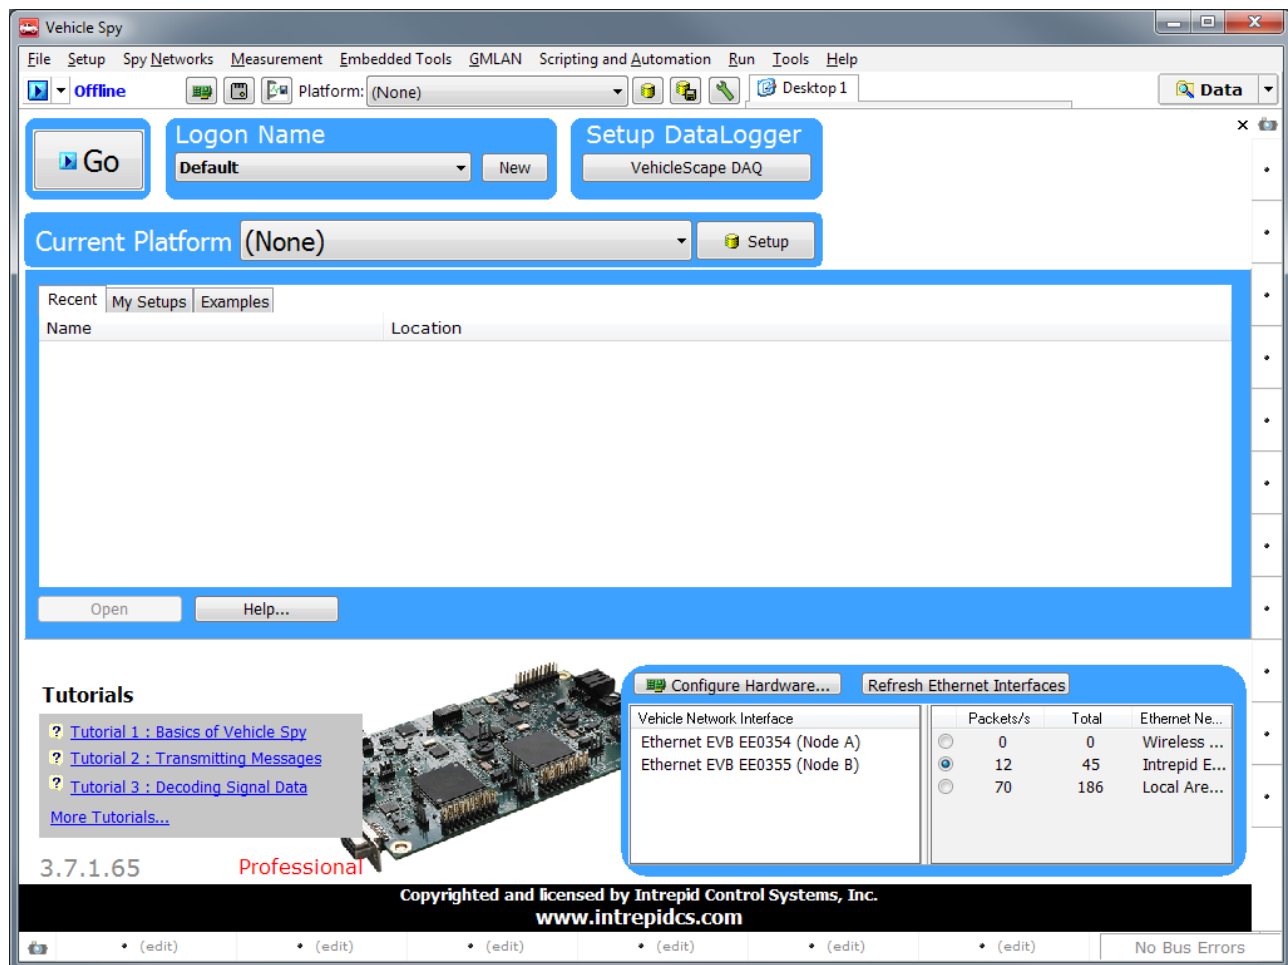
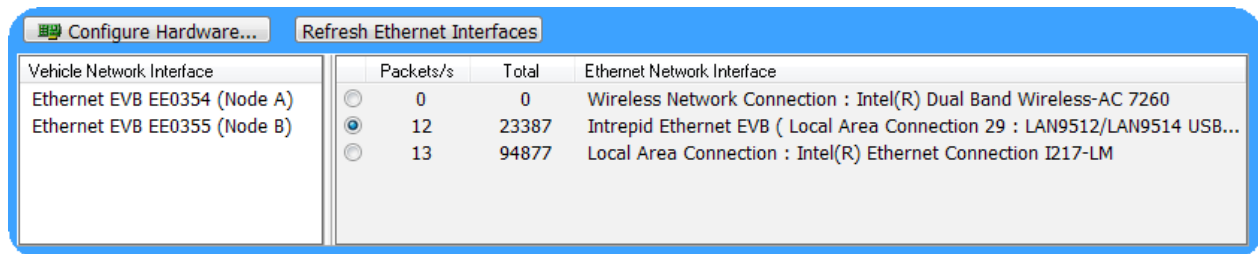

Figure 4: Vehicle Spy Logon Screen with PC Ethernet Interfaces Enabled.
Figure 5: Resized Hardware Device and Ethernet Interface Lists.
When the program loads again you will now see a list of Ethernet interfaces at the bottom right of the screen, as shown in Figure 4. In this case we have three interfaces shown. Due to the small window size we use to keep screenshots legible, the names are shortened and hard to read, but we'll show you in a moment how to get around that.
With PC Ethernet interface support now enabled, we have a list of Ethernet interfaces in the bottom right of the Vehicle Spy *Logon Screen*. However, Figure 4 uses a relatively small window size. You can see more of the interface list by enlarging the window, or by dragging to the left the vertical slider that divides the hardware device list and Ethernet interface list. You can also do both, as we did to create Figure 5.
- **Go Online:** Press the  button located near the top left of the *Logon Screen*. You can also press the  button found just below it (these can be seen near the top left of Figure 4).